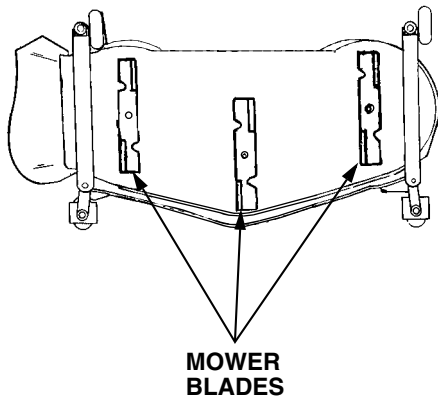

Figure 50
2. Position the mower blades so the ends of each blade point to the front and the rear of the tractor (See Figure 50). Lower the tractor implement lift handle to a mid-height setting.